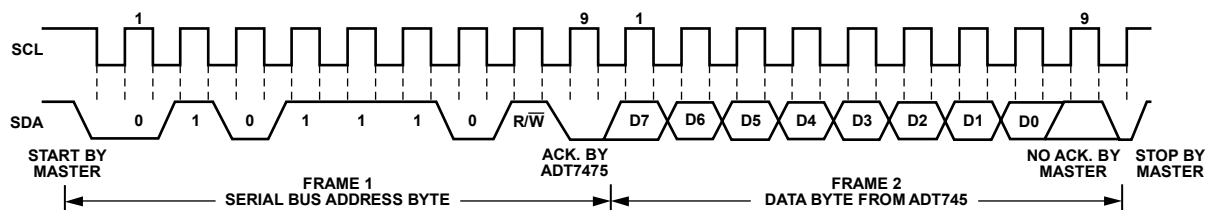

Figure 16. Reading Data from a Previously Selected Register
- If the address pointer register is known to be already at the desired address, data can be read from the corresponding data register without first writing to the address pointer register (see Figure 16).